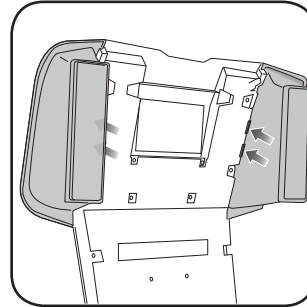

Fig. 2.1
1. Remove the climate vents from the bezel assembly by releasing the two clips securing them. (Fig. 2.1)